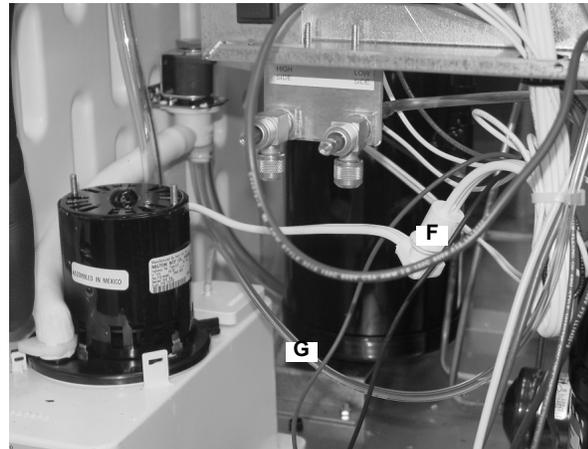

Figure 11.
8. Disconnect the Water Pump plug (F) and Transducer Pressure Hose (G) (Figure 11).